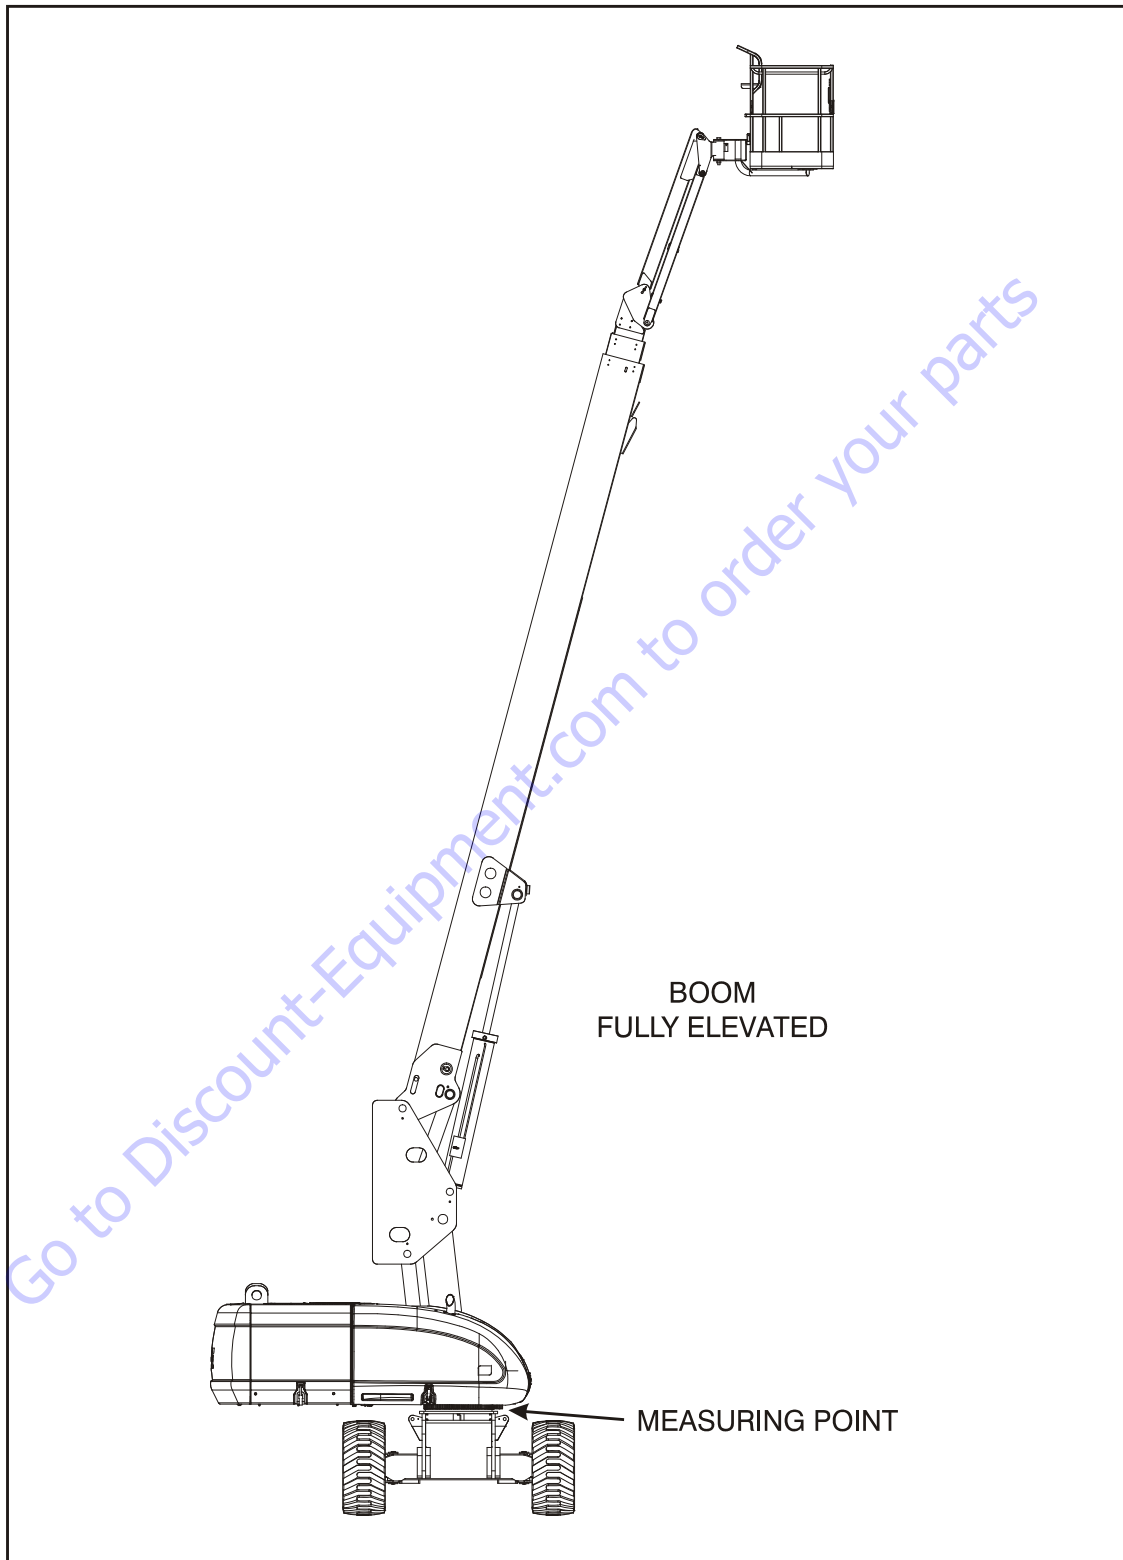
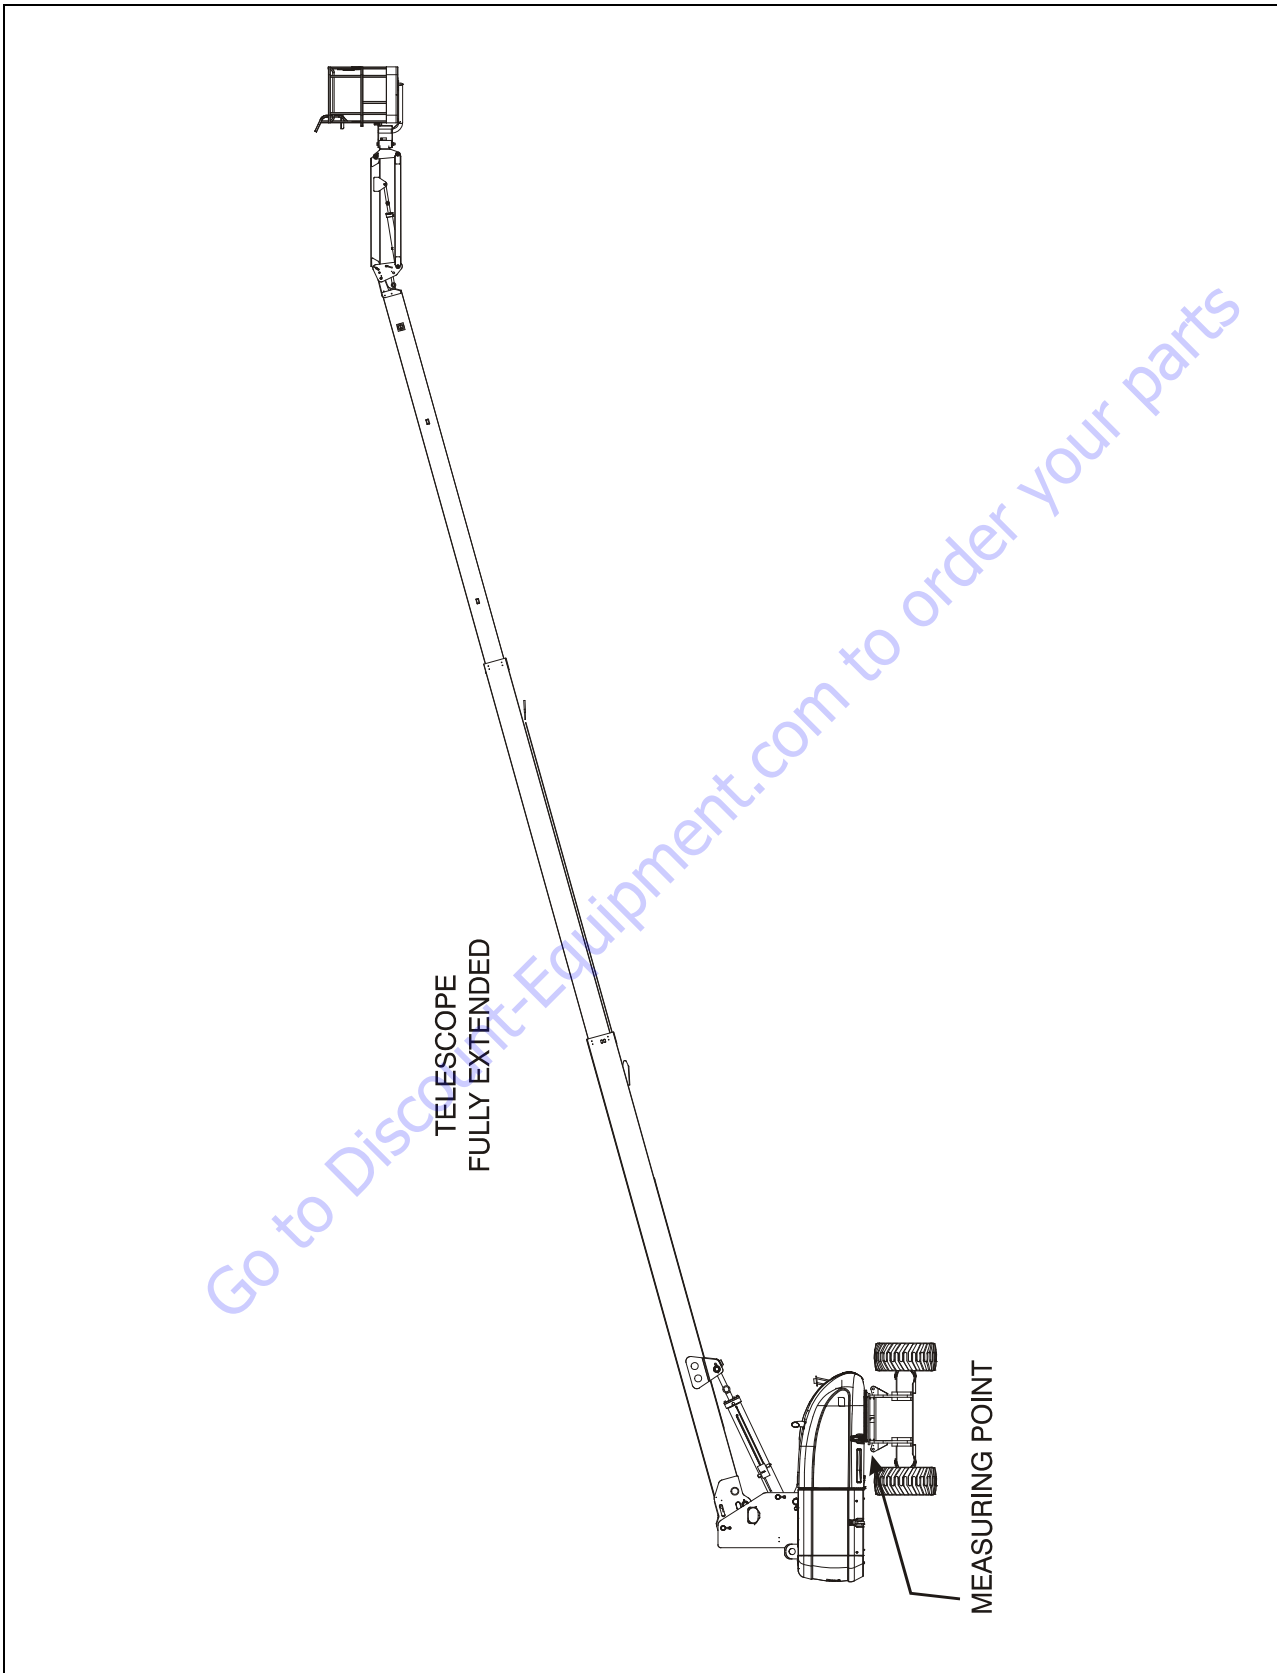
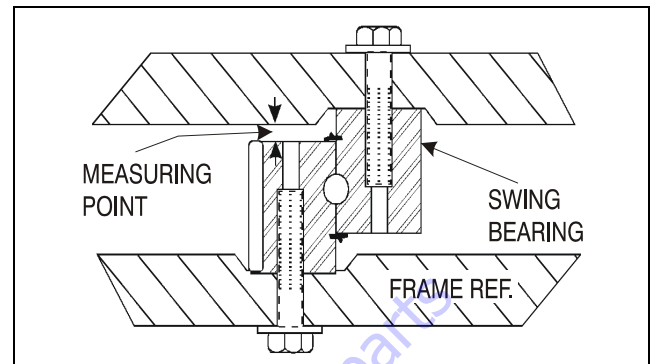

Figure 3-59. Swing Bearing Tolerance Boom Placement (Sheet 1 of 2)
Figure 3-60. Swing Bearing Tolerance Boom Placement (Sheet 2 of 2)
Figure 3-62. Swing Bearing Tolerance Measuring Point
- a. Elevate the fully extended main boom to horizontal. (See Figure 3-60.).
- b. At the position indicated on Figure 3-59., try to insert the 0.0015 in. feeler gauge between the bolt head and hardened washer at the arrow indicated position.
1. From the underside of the machine, at rear center, with the main boom fully elevated and fully retracted as shown in Figure 3-59., Swing Bearing Tolerance Boom Placement (Sheet 1 of 2), using a magnetic base dial indicator, measure and record the distance between the swing bearing and turntable. See Figure 3-62., Swing Bearing Tolerance Measuring Point.
2. At the same point, with the main boom at horizontal and fully extended as shown in Figure 3-60., Swing Bearing Tolerance Boom Placement (Sheet 2 of 2). Using a magnetic base dial indicator, measure and record the distance between the swing bearing and turntable. See Figure 3-62., Swing Bearing Tolerance Measuring Point.